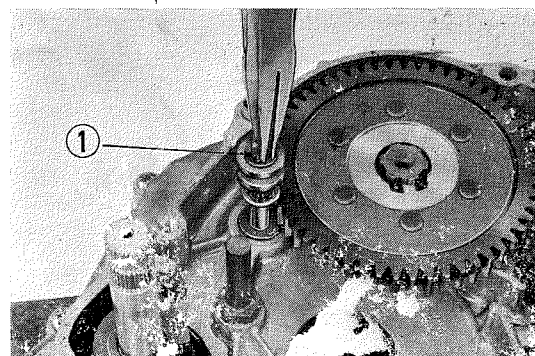

Fig. 42 ① 6mm. circlip
6. Remove 6 mm circlip and take off the change pawl shaft flange, spring and washer. (Fig. 42)